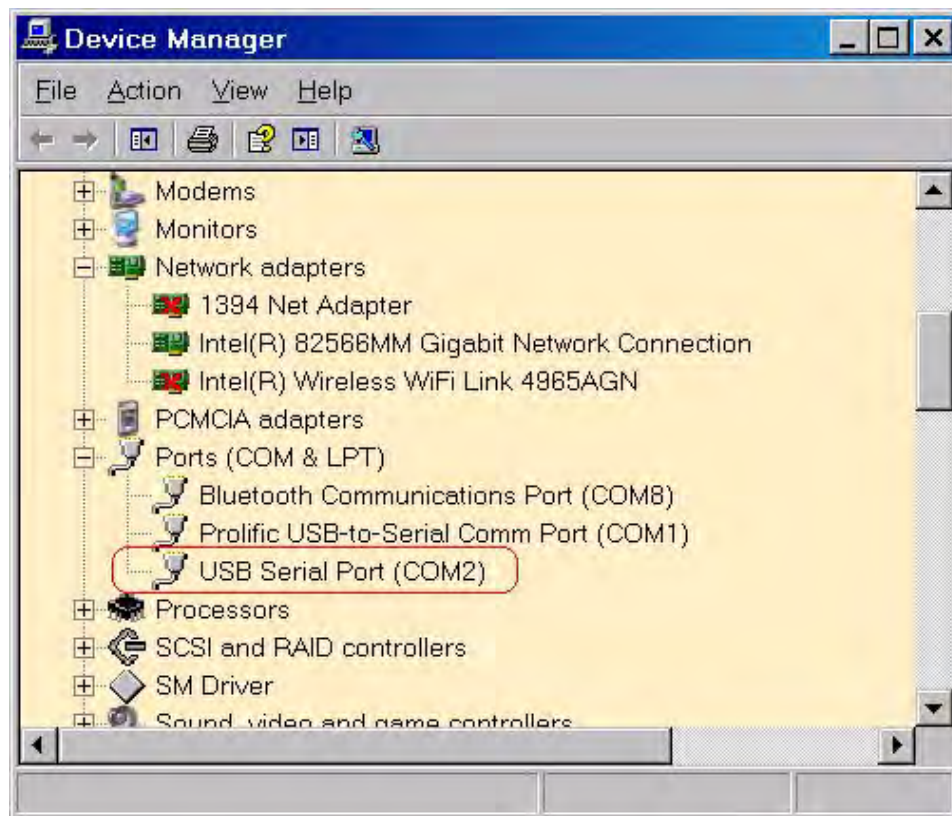

Figure 5. A Successful USB-to-UART Driver Installation
5. If the driver installation was successful, the *Ports (COM & LPT)* section of the Device Manager will display *USB Serial Port (COMx)* or similar message, as highlighted in Figure 5.